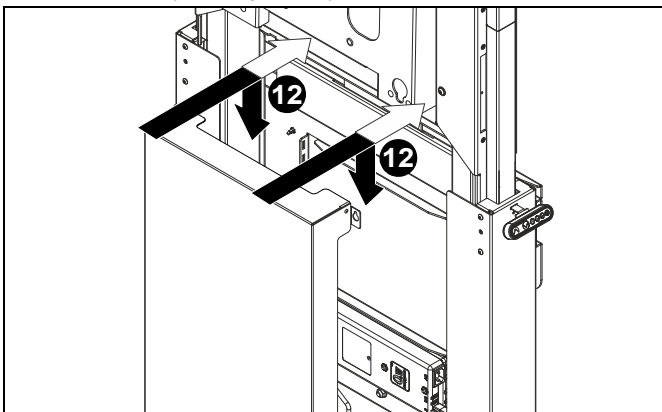

Figure 29
13. Reinstall inner cover and tighten Phillips screws to secure it in position. (See Figure 29)